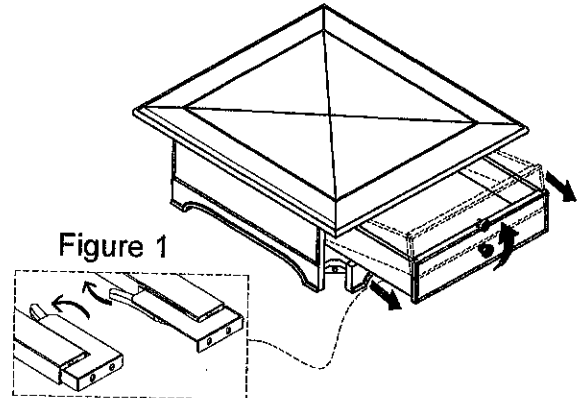

Figure 1
1. Turn the table Top upside down on to a clean, soft surface. Pull the drawer out then press the locking device with your hands softly in the direction of the arrow and remove the drawer. (See Figure 1).